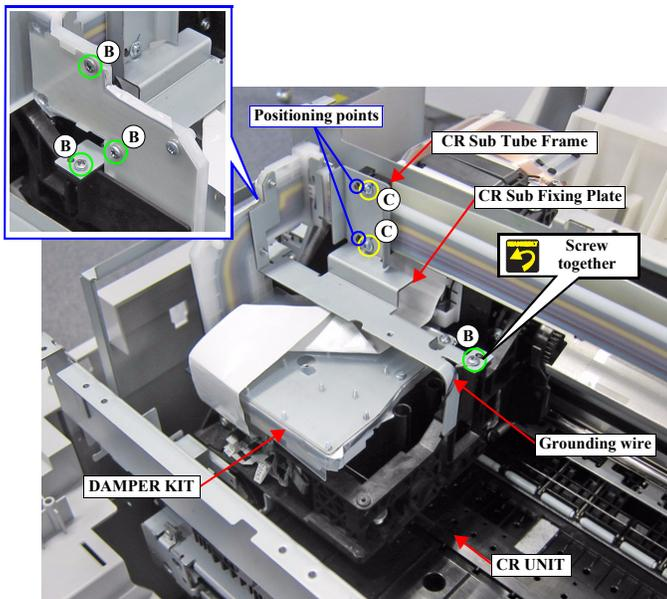

Figure 3-55. Removing the CR Sub Fixing Plate
- Pay attention to the positioning points (See Figure 3-55).